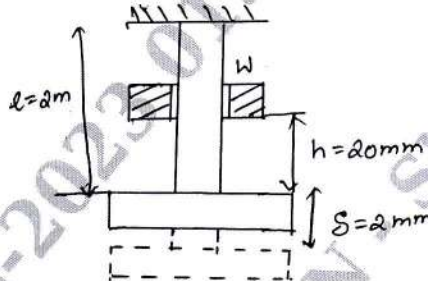

Fig.Q3(a)
- 3 a. A unknown weight falls from a height of 20mm on to a collar rigidly attached to lower end of vertical bar 2m long and 500 sq-mm section. If maximum instantaneous extension is known to be 2mm, what is corresponding stress and value of unknown weight. Take $E = 200 \text{ GPa}$. [Refer Fig.Q3(a)]